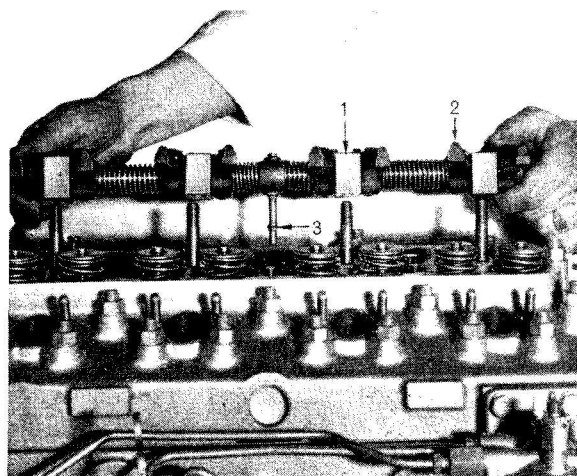

Fig. 4.
12. Remove rocker assembly from cylinder head (Fig. 4). Remove push rods.
2. Refit the support brackets, springs, and rocker levers in the correct order (Fig. 4). The support brackets are interchangeable and when fitting them ensure that the securing stud holes are to the right viewing the shaft from the front end, with each pair of rockers inclined away from each other at the valve end.